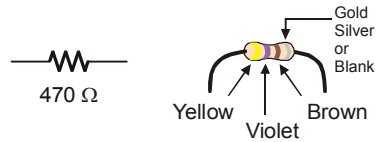
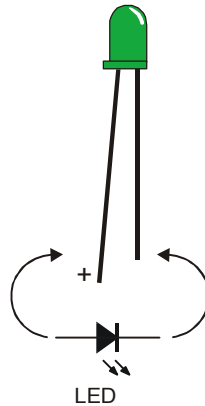

Figure 2-2
Figure 2-4
A resistor is a component that 'resists' the flow of electricity. This flow of electricity is called current. Each resistor has a value that tells how strongly it resists current flow. This resistance value is called the ohm, and the sign for the ohm is the Greek letter omega - Ω . The resistor you will be working with in this activity is the 470 Ω resistor shown in Figure 2-2. The resistor has two wires (called leads and pronounced "leeds"), one coming out of each end. There is a ceramic case between the two leads, and it's the part that resists current flow. Most circuit diagrams that show resistors use the symbol on the left with the squiggly lines to tell the person building the circuit that he or she must use a 470 Ω resistor. This is called a schematic symbol. The drawing on the right is a part drawing used in some beginner level Stamps in Class texts to help you identify the resistor in your kit.
Figure 2-4 shows an LED's schematic symbol and part drawing. An LED has two terminals. One is called the anode, and the other is called the cathode. In this activity, you will have to build the LED into a circuit, and you will have to pay attention and make sure the leads connected to the anode and cathode are connected to the circuit properly. On the part drawing, the anode lead is labeled with the plus-sign (+). On the schematic symbol, the anode is the wide part of the triangle. In the part drawing, the cathode lead is the unlabeled pin, and on the schematic symbol, the cathode is the line across the point of the triangle.
Identifying the parts: In addition to the part drawings in Figure 2-2 and Figure 2-4, you can use the photo on the last page of the book to help identify the parts in the kit needed for this and all other activities. For more information on the parts in this photo, see Appendix B: Equipment and Parts Lists.
- ✓ Use Figure 2-4 to decide which lead is connected to the LED's cathode. Look for the shorter lead and the flat spot on the plastic part of the LED.